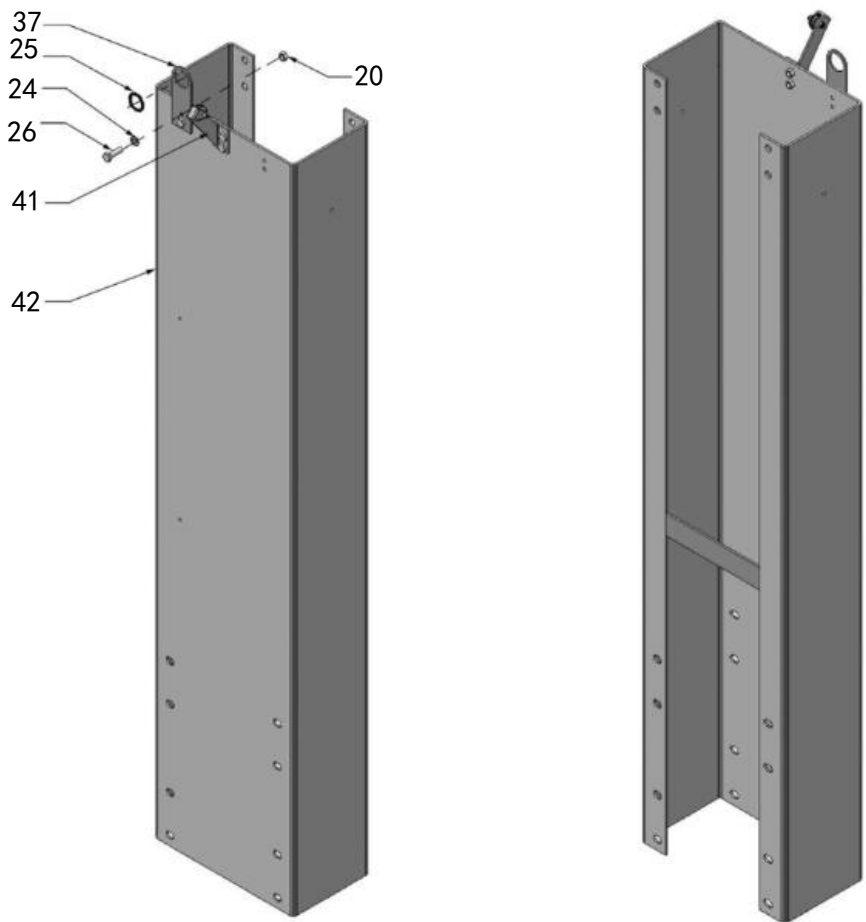

Fig.16
D. Install parts of extension columns (See Fig. 16).